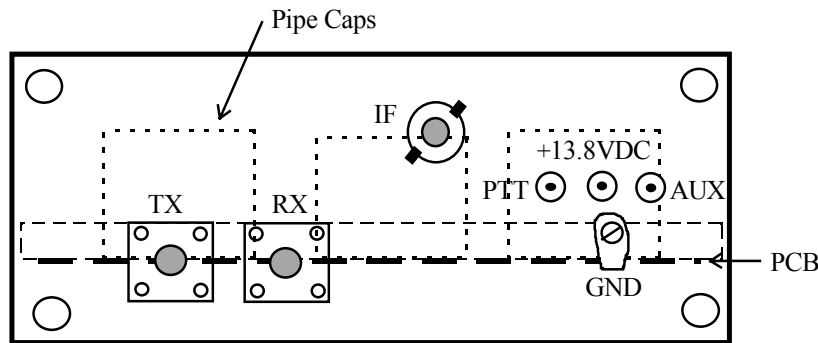

Figure 7.
13. Refer to Figure 7 and install the rear panel to the PCB by first prepping the SMA connectors so that the Teflon will not interfere with the circuit board. Do not use the SMA that was installed on the LO test point. Use the rear panel as a guide and trim the excess Teflon from the SMA's with a sharp knife. Cut the pins to .100" extending from the Teflon. Attach the SMA connectors to the panel with the #3-48 x 3/16" screws. (4 total) Then attach the panel to the PCB with the 5, 3-48 x 3/8" screws. Note where the ground lug is mounted. Look for any gaps or bulges between the pallet and the panel. If needed, disassemble and re-cut the Teflon on the SMA's or trim the circuit board. This "perfect mating surface " is required for the RF grounding of the SMA connectors to the pallet. Be sure of a proper interface of connector, panel and pallet. Install the BNC connector or connectors and 3 DC feed-thru connectors in the end panel. If you are using a common IF you only need one BNC connector.